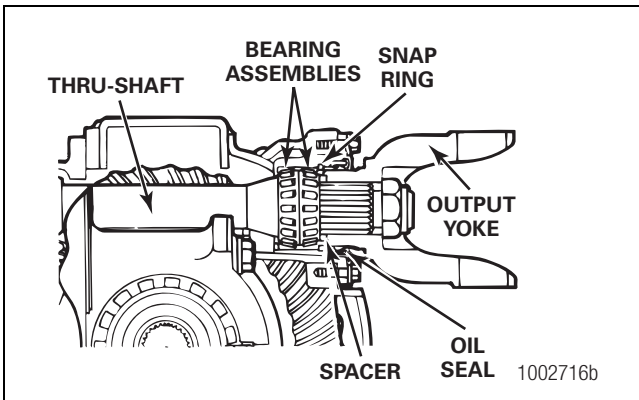

Figure 3.12
1. Remove and discard the original oil seal. Use a new triple-lip or main oil seal when the carrier is assembled. Figure 3.12.